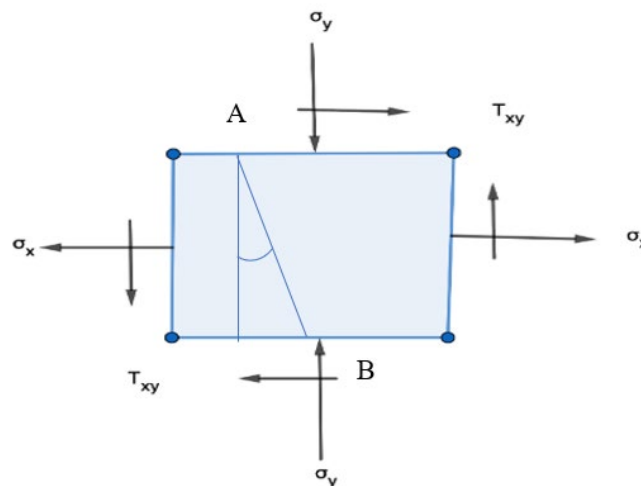

Figure 2-Stress system
Q2. A pressure vessel is made of a ductile material is subjected to a two-dimensional stress system as in Figure 2 below. The stress in the x direction is 60 MPa in tension, 30 MPa compressive in the y direction, and there is a shear stress of 20 MPa.
- a) Determine, by calculation, the direct and shear stress on the plane AB which is inclined 30 degrees from the y direction, as shown in figure 2.